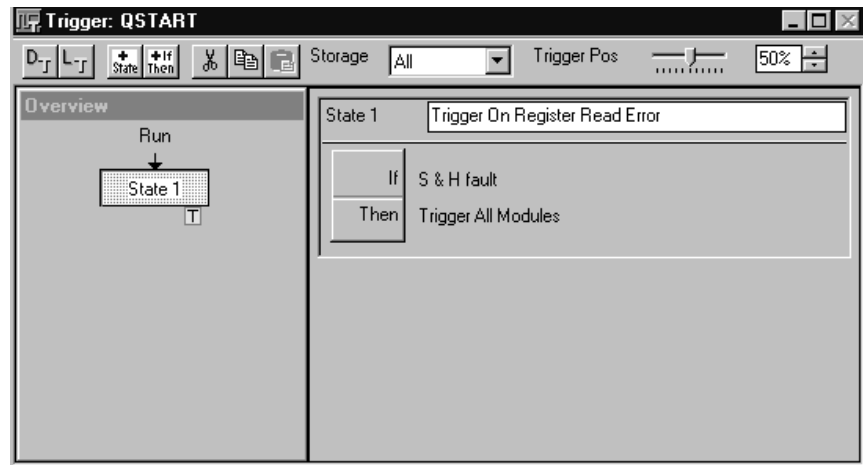

Figure 3–20: Trigger window for Exercise 5
4. Open the Define Violation dialog box to see how the setup and hold violation is specified. (See Figure 3–21 on page 3–28.)